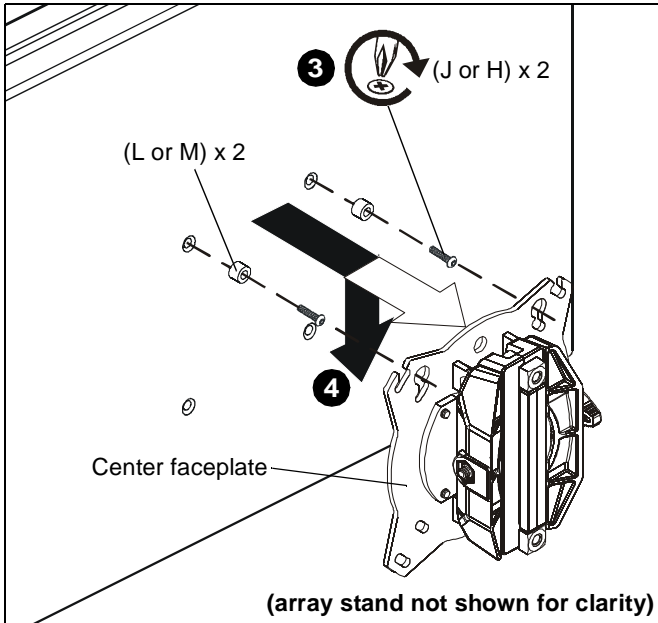

Figure 14
3. Using Phillips screwdriver, carefully install two selected screws (J or H) through selected spacers (L or M) into the *upper* mounting holes on the display. Thread screws completely into display, then back out 3 complete turns. (See Figure 14)
4. Pick up and align display so that screws (K) (installed on the back of the display in the previous step) fit into the mounting holes on the faceplate. Lower the display firmly into place. (See Figure 14)